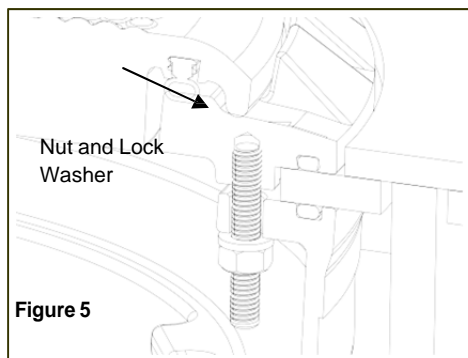

Figure 5
16. Thread nut and lock washer onto studded mounting ring. Tighten the mounting ring retaining bolts until the containment bucket o-rings make contact with the multi-port cover. Then, in a crossing pattern, torque the bolts down between 15 to 20 ft.-lbs. 6 Point Ratcheting box wrench is recommended. (See Figure 5.)